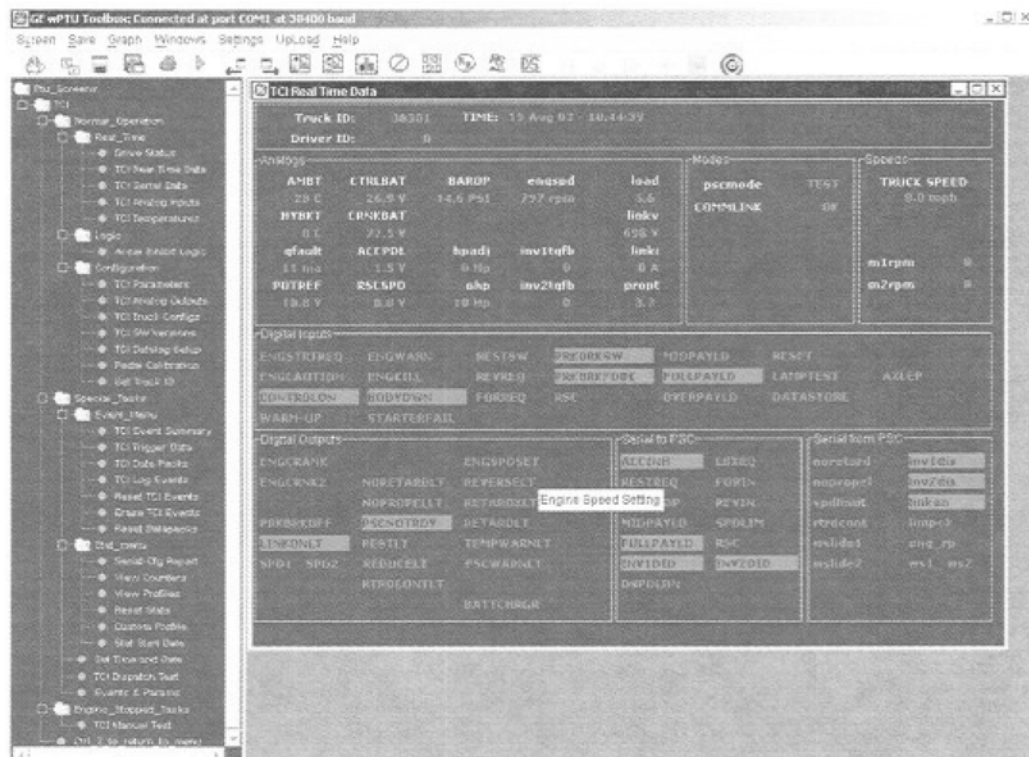

FIGURE 3-15. TCI REAL TIME DATA SCREEN
- Verify that the analog values and highlighted functions are similar to the TCI Real Time Data screen in Figure 3-15.